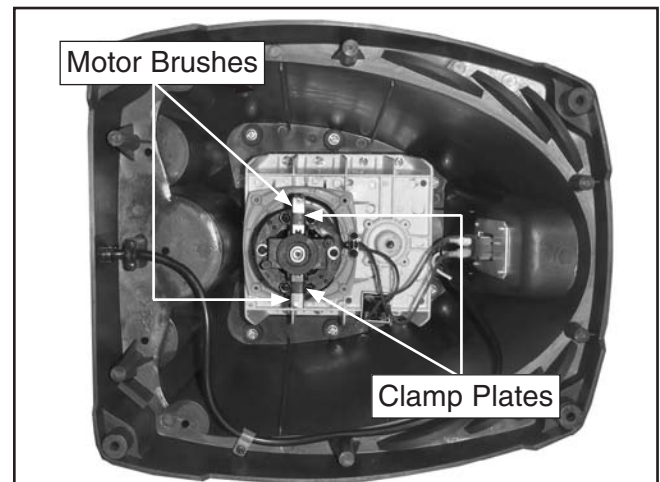

Figure 20. Motor brush location on motor.
3. Loosen the screws that secure the clamp plate over the brush assemblies (see **Figure 20**) but do not completely remove the plate.